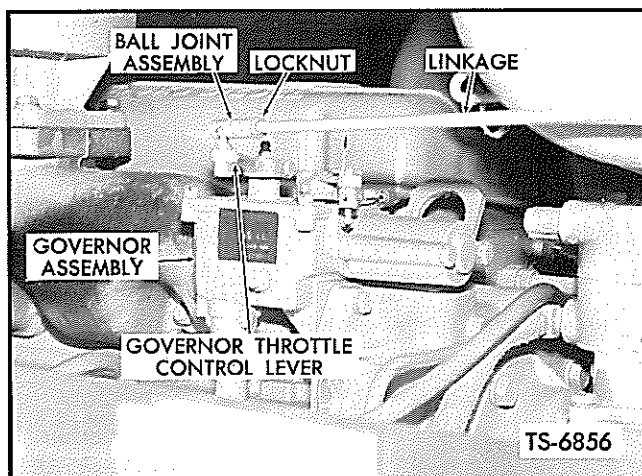

Fig. 17. Adjust Throttle Linkage at Governor Housing — G.M.
3. Rotate governor throttle control lever to extreme forward (full throttle) position and adjust clevis to obtain a slip fit in governor throttle lever just before accelerator bottoms. If a slip fit cannot be obtained adjust clevis at lower bell crank arm. See Figures 17 and 18.